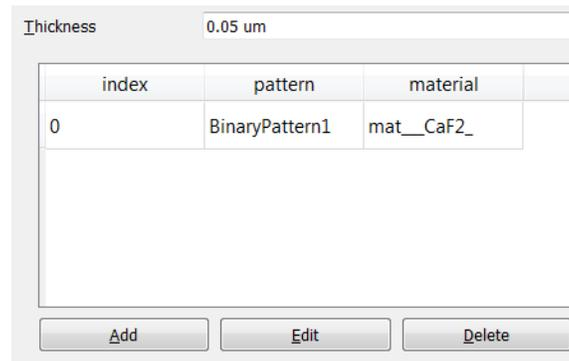

Figure 3: Material Layer Settings
12. Next we need to apply our pattern to the material layer in question. To do this, click the **Add** button at the bottom of the **Property Editor** for the material layer. Double-click the **pattern** column of the new table entry and select **BinaryPattern1** from the dropdown. Then double-click the **material** column and select the Calcium Fluoride (**mat\_\_CaF2\_**). The end result is shown in Figure 3.